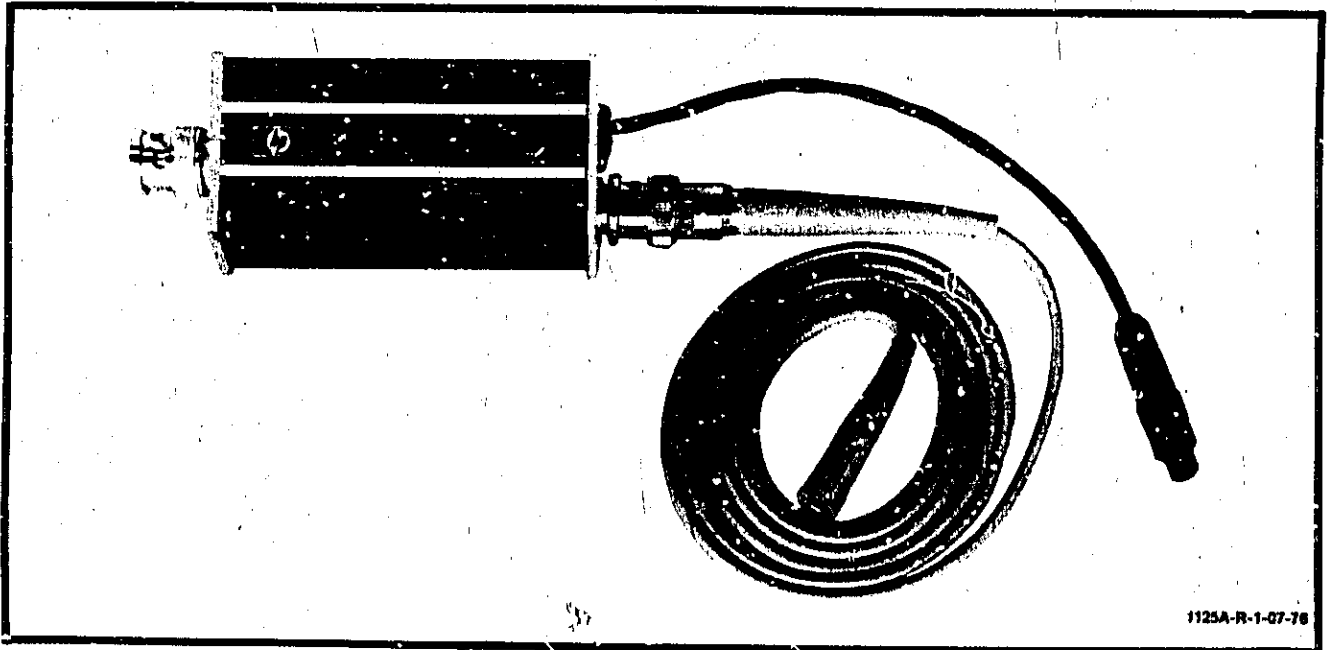

Figure 1. Model 1125A Probe
2. The HP Model 1125A (figure 1) provides high impedance probing capabilities for high frequency instruments. It is designed for use with 50-ohm systems, such as the HP Model 1710B Oscilloscope and HP Model Vertical Plug-in.